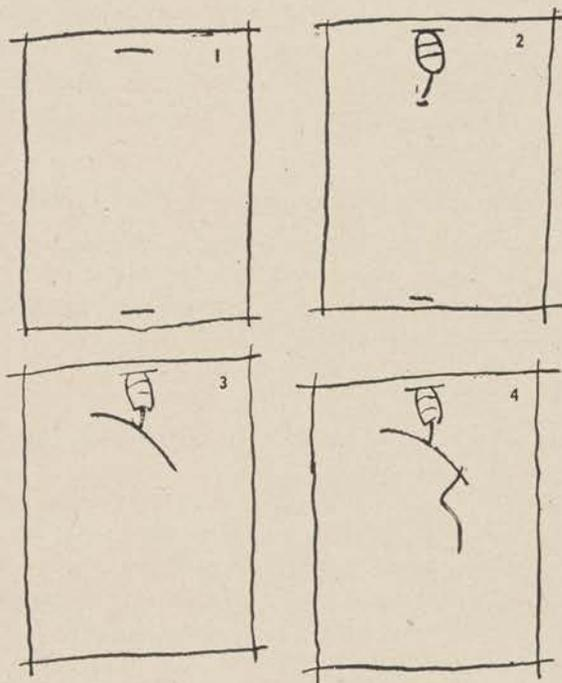

Figure 216.
b. After you have studied the nature of your subject's action (or inaction) you're ready to begin. Consider the placing of your drawing on the paper, for balance and arrangement. Make two marks to indicate the length of the drawing (fig. 216). Block